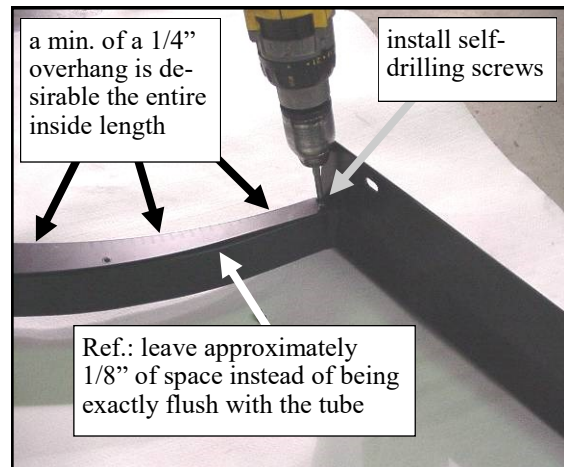
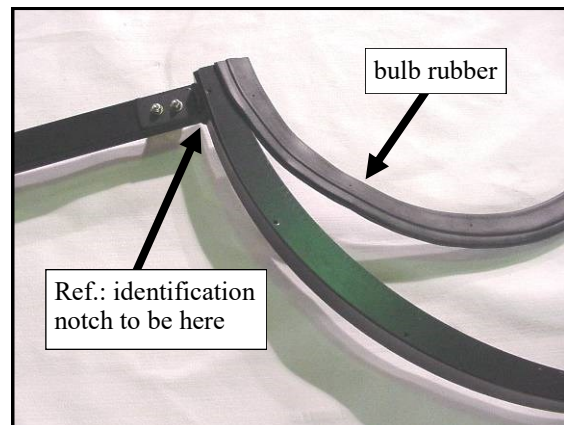

Fig. 4.2 Attaching Contour pieces
Fig. 4.3 Installing bulb rubber
**4.2** Attach one contour to the inside edge of each side frame using five self-drilling screws. See fig. 4.2. Note: extra screws are provided in case one gets lost. Be sure to select the appropriate contour for the specific tractor model number. The wider pair is for the 2320. The narrow pair is for the 2520/2720. Place the intentional identification notch towards the rear of the side frame (see figure 4.3). Start by using the 1/8" shy of flush approach to the outer radius of the bent tubing and adjust only where necessary to guarantee at least a minimum of 1/4" overhang on the inside radius so there will be sufficient room to accept the bulb rubber to be installed next. Repeat for opposite side.
**4.3** Install the bulb rubber to the sheet metal contour pieces as shown in fig. 4.3.